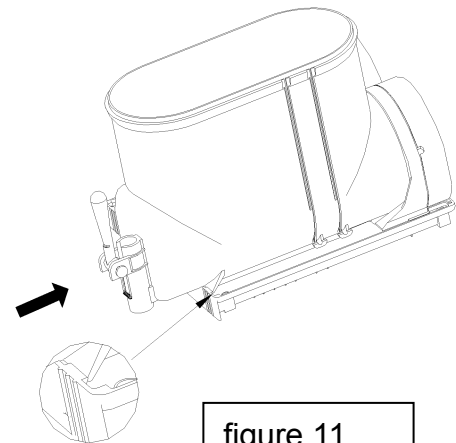

figure 11
5. Push the bowl/tank towards the rear wall of the unit until it fits snugly around the gasket. The front fastening hooks must properly engage (fig.11). Use fresh mix to remove any remaining sanitizer from the bottom of the bowls/tanks. Drain this solution and do not rinse out the machine.